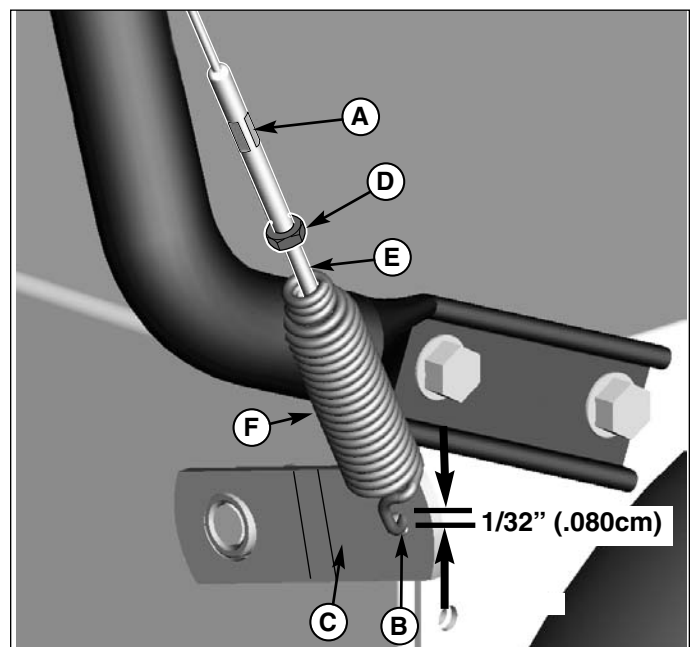

Figure 19. Auger Drive Adjustment
2. With the drive lever released, the hook (B, Figure 19) should barely touch the lever (C) without raising it. There can be a maximum 1/32" clearance as shown.
3. To adjust, loosen nut (D) by holding the adjusting flats (A) and turning nut (D). Turn adjustment flats and hold screw. The adjustment screw is a phillips screw and the head can be held or turned by inserting a screwdriver through the spring (F).
4. Hold adjusting flats (A) and tighten nut (D).